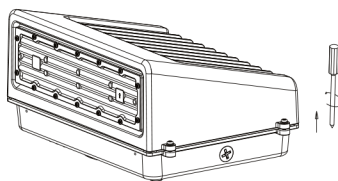

Fig. 2-1A
- Take out the light, and loosen the screws on the cover and take apart the fixture by the screwdriver. Pull off the quick connect terminal vigorously. (Fig. 2-1A&B)